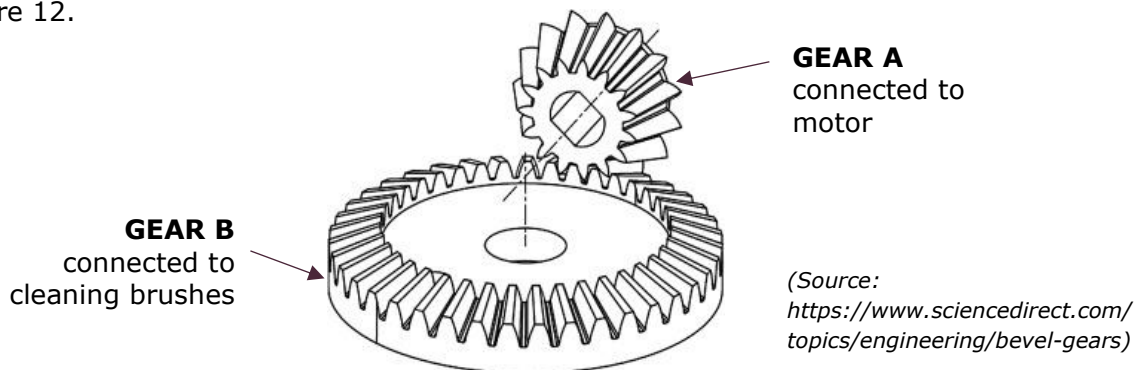

Figure 12
24. The cleaning brushes of the robot are connected to a d.c. motor with the gears as shown in Figure 12.
- a. Identify the type of gear shown in Figure 12.
- b. Label the driver and the driven gear on Figure 12.